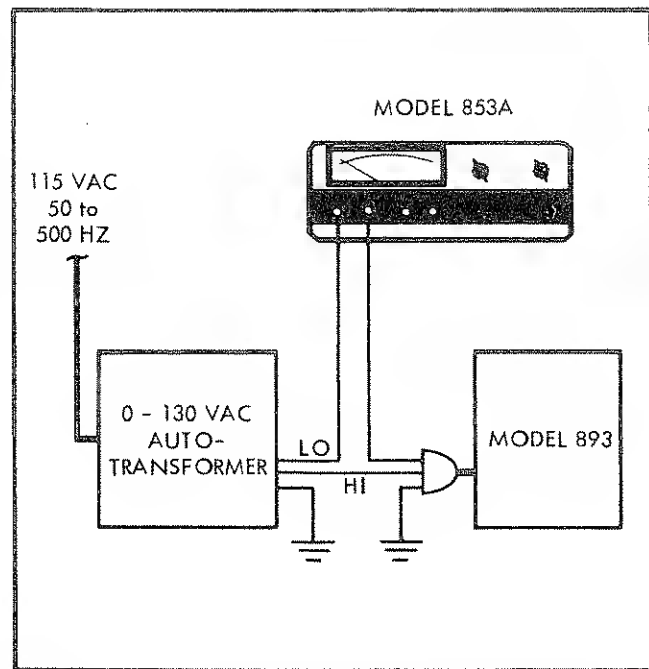

Figure 4-3. REFERENCE AMPLIFIER/REFERENCE INVERTER CHECKS - EQUIPMENT CONNECTIONS
- b. Make the equipment connections illustrated in Figure 4-3 and place the Model 893 controls as follows: